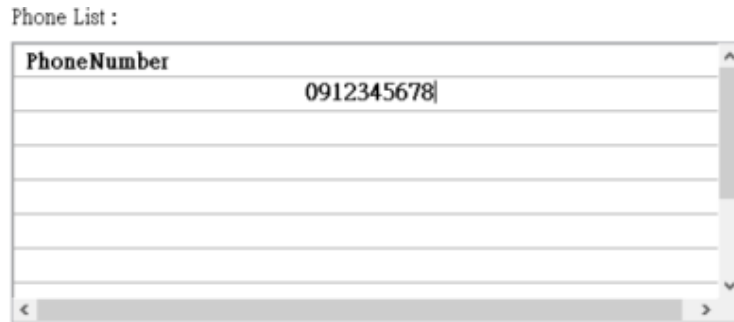

Figure 6.10.27
H. Fill in the target phone number, as shown in Figure 6.10.27